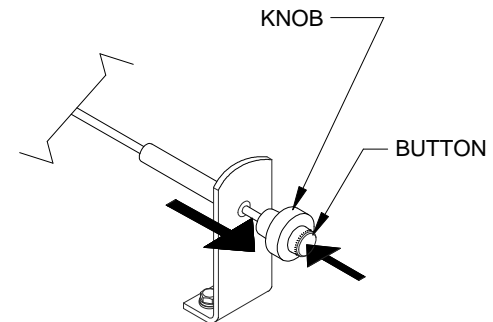

FIGURE 2-15: DISENGAGE PLATFORM FROM ENCLOSURE
- 3) Refer to **Figure 2-15**. Release the platform from the enclosure by pushing the button on the release knob and then pulling the knob outward about two inches. Release the button while holding the knob out.